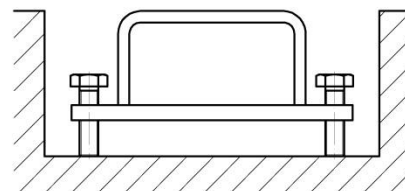

Fig.8
- Heavy Stop Logs with bottom profile should be aligned and fixed with leveling screws (Fig.8)